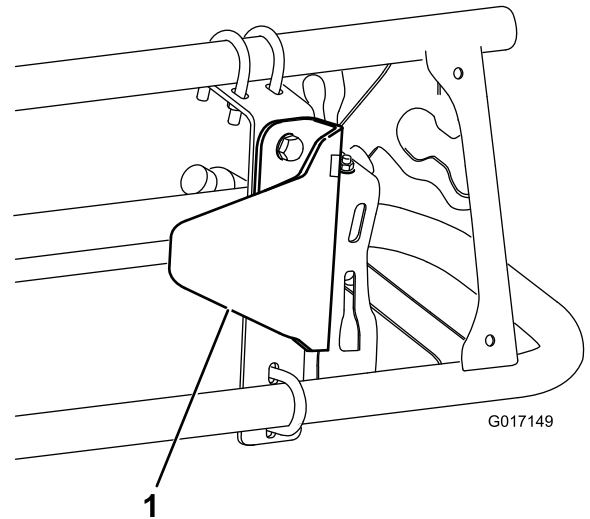

Figure 16
2. Install the sensor guard bracket onto the mounting bracket with 2 bolts (5/16 x 3/4 inch) and 2 flange nuts (5/16 inch) as shown in Figure 16.